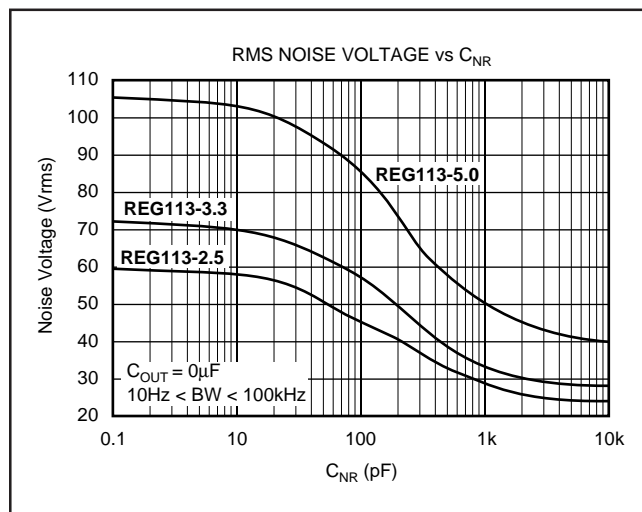
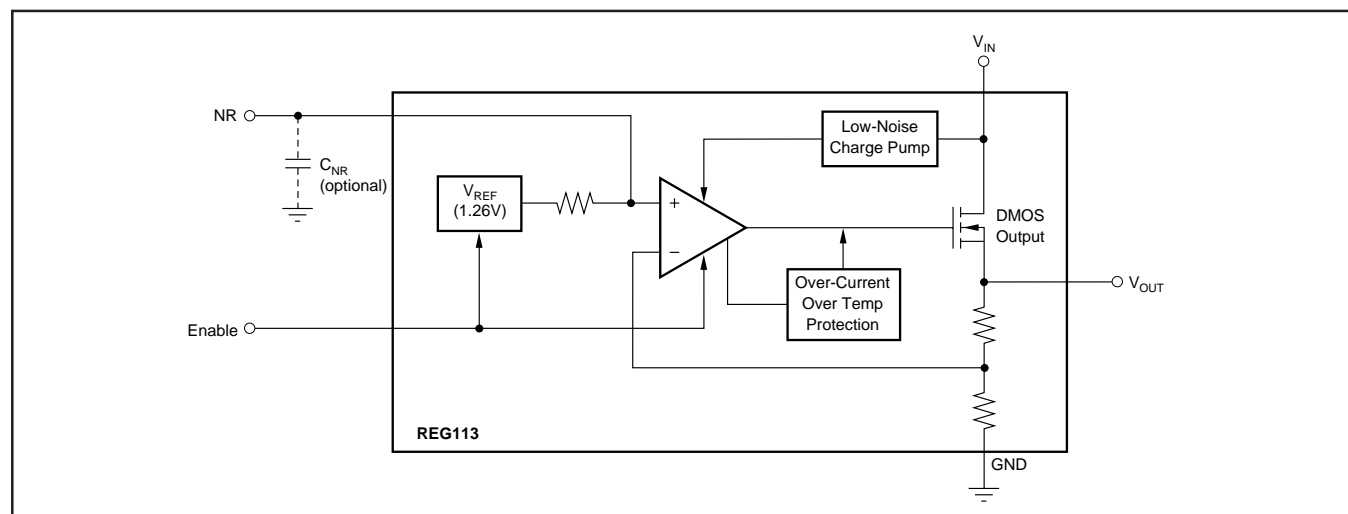

FIGURE 4. Output Noise versus Noise Reduction Capacitor.
FIGURE 3. Block Diagram.
Connecting a capacitor, C_{NR} , from the Noise Reduction (NR) pin to ground (as shown in Figure 3) forms a low-pass filter for the voltage reference. For $C_{NR} = 10\text{nF}$, the total noise in the 10Hz to 100kHz bandwidth is reduced by approximately a factor of 2.8 for $V_{\text{OUT}} = 3.3\text{V}$. This noise reduction effect is shown in Figure 4, and as *RMS Noise Voltage vs C_{NR}* in the Typical Characteristics section.